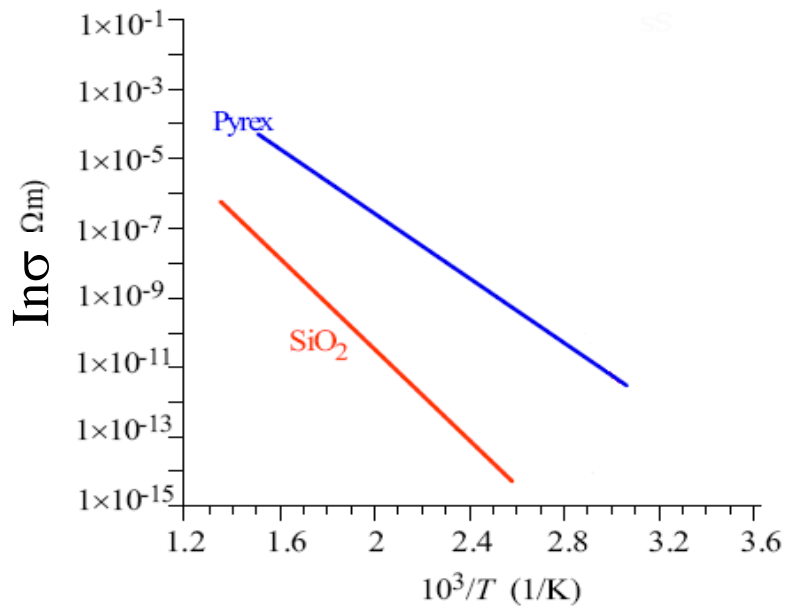

Figure 1 / Rajah 1
1. [a] The resistivity values of  $\text{SiO}_2$  and Pyrex were obtained from impedance plane plots and are summarized in Arrhenius conductivity format in Figure 1. Calculate the activation energy for  $\text{SiO}_2$  and Pyrex. Given Boltzman constant,  $k=1.3806 \times 10^{-23} \text{ JK}^{-1}$ .